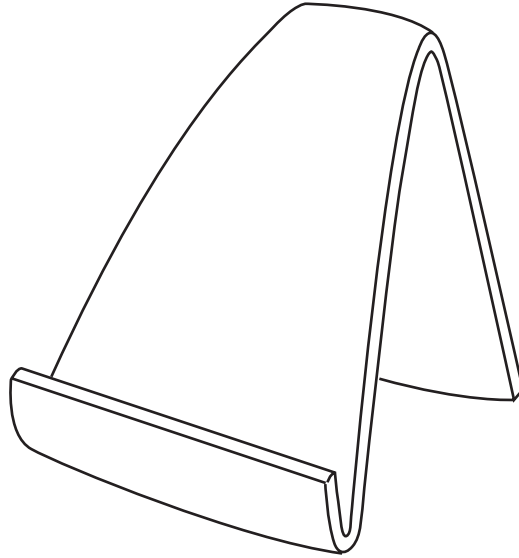

Fig. 1
- 1 Fig. 1 shows a simple acrylic photograph stand.